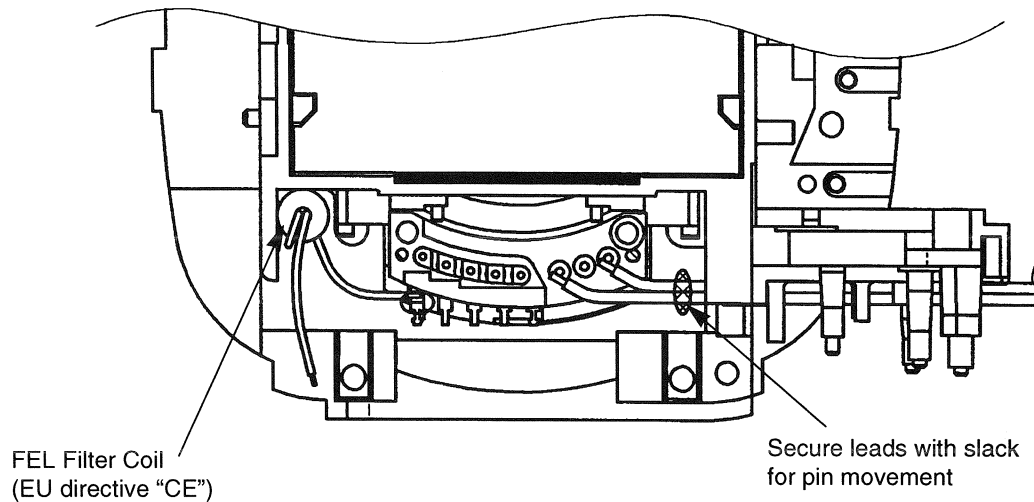

Fig. 3-24 MIF Unit
(CE) The user safety filter coil is installed as shown in figure 3-24.